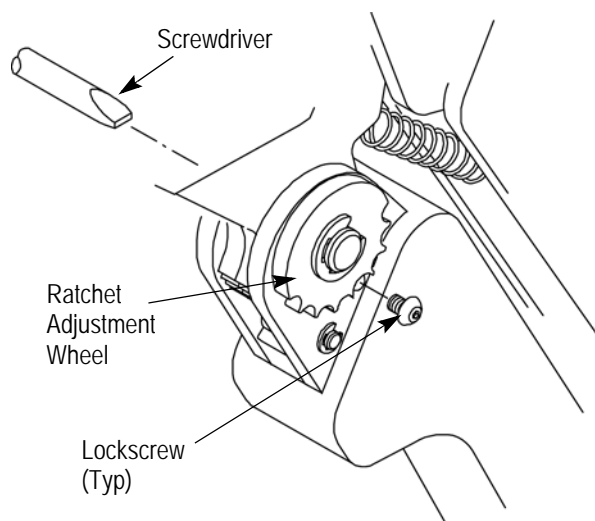

Figure 6
5.4. Ratchet Adjustment (Figure 6)